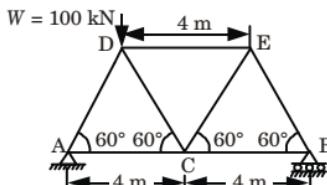

Fig. 3.12.1.
**Que 3.12.** Fig. 3.12.1 shows a pin-jointed truss loaded with a single load W is 100 kN. If the area of cross-section of all members shown in Fig. 3.12.1 is 1000 mm2, what is the vertical deflection of point C ? Take E = 200 kN/mm2 for all members.